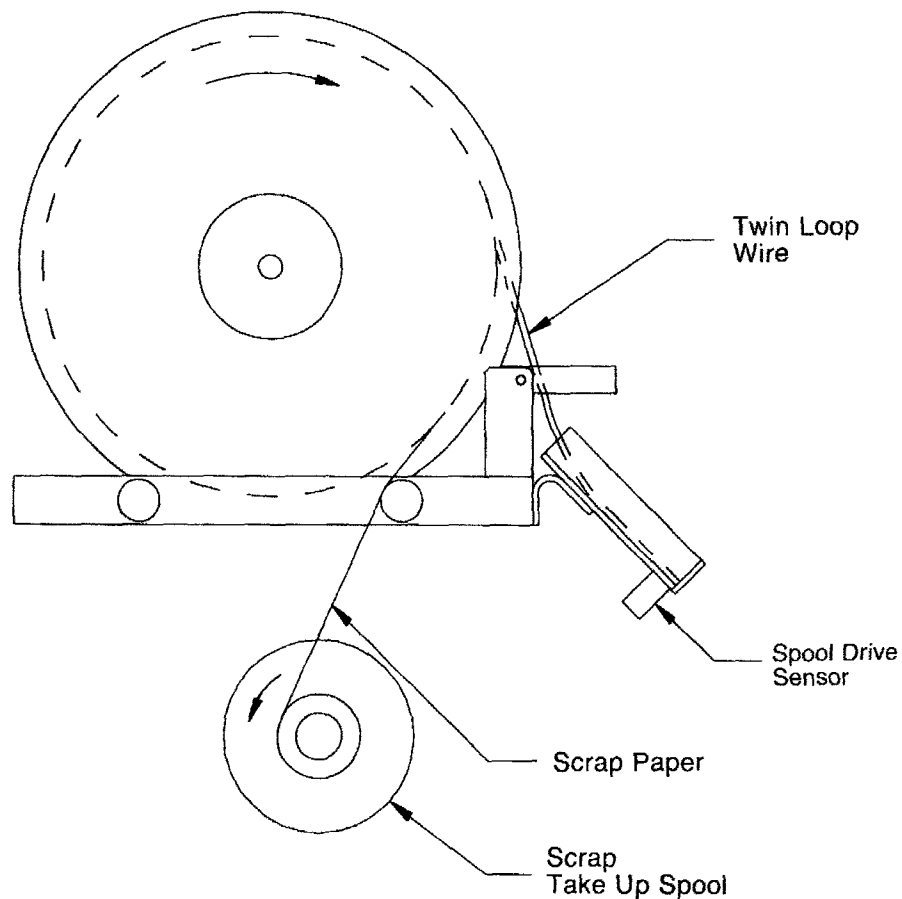

Figure 3
4. Lay the wire inside the storage chute and thread the scrap paper between both drive rollers and wind it up on the scrap take-up spool in a counter-clockwise direction (See Figure 3).